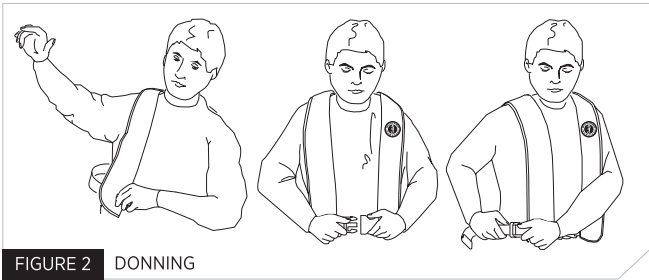

FIGURE 2 DONNING
2. Put the PFD on just like a jacket (Fig. 2) and fasten the front buckle. Adjust the waist belt using the side buckle on the belt, and secure the belt's loose end in the belt loop.